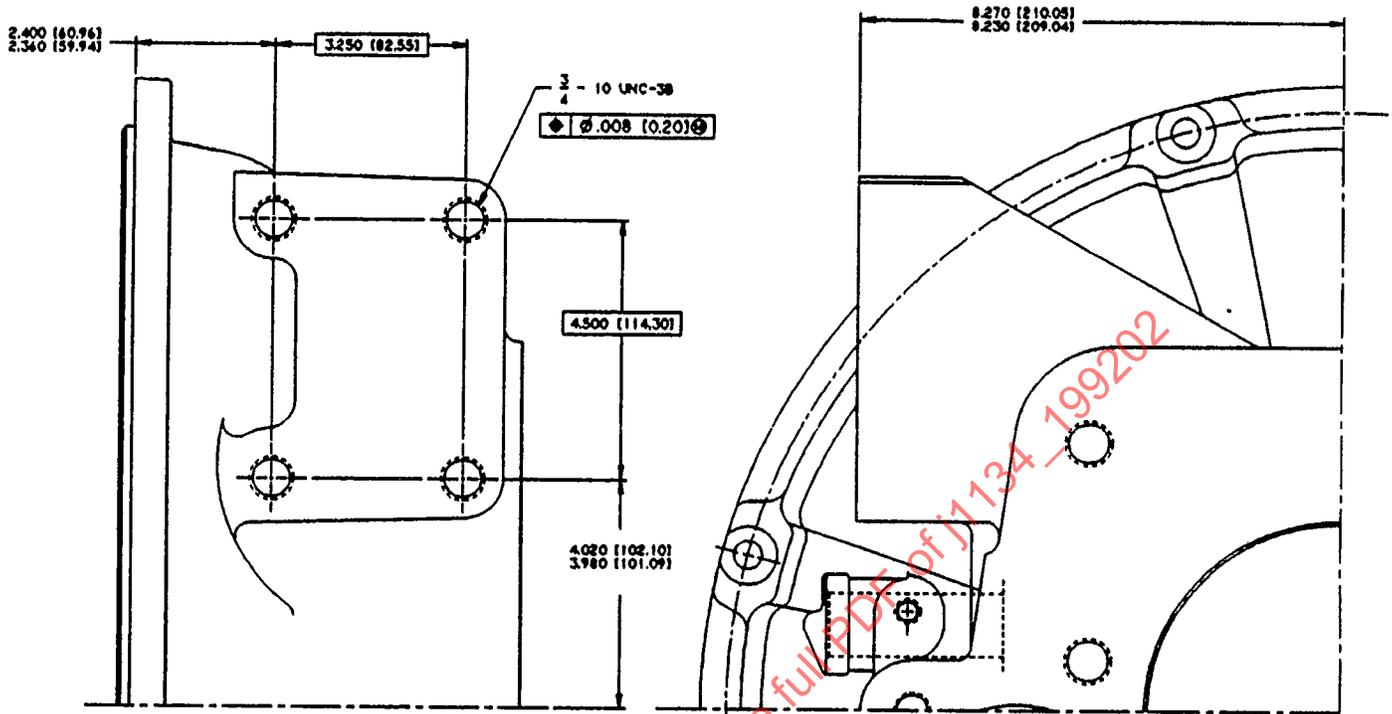
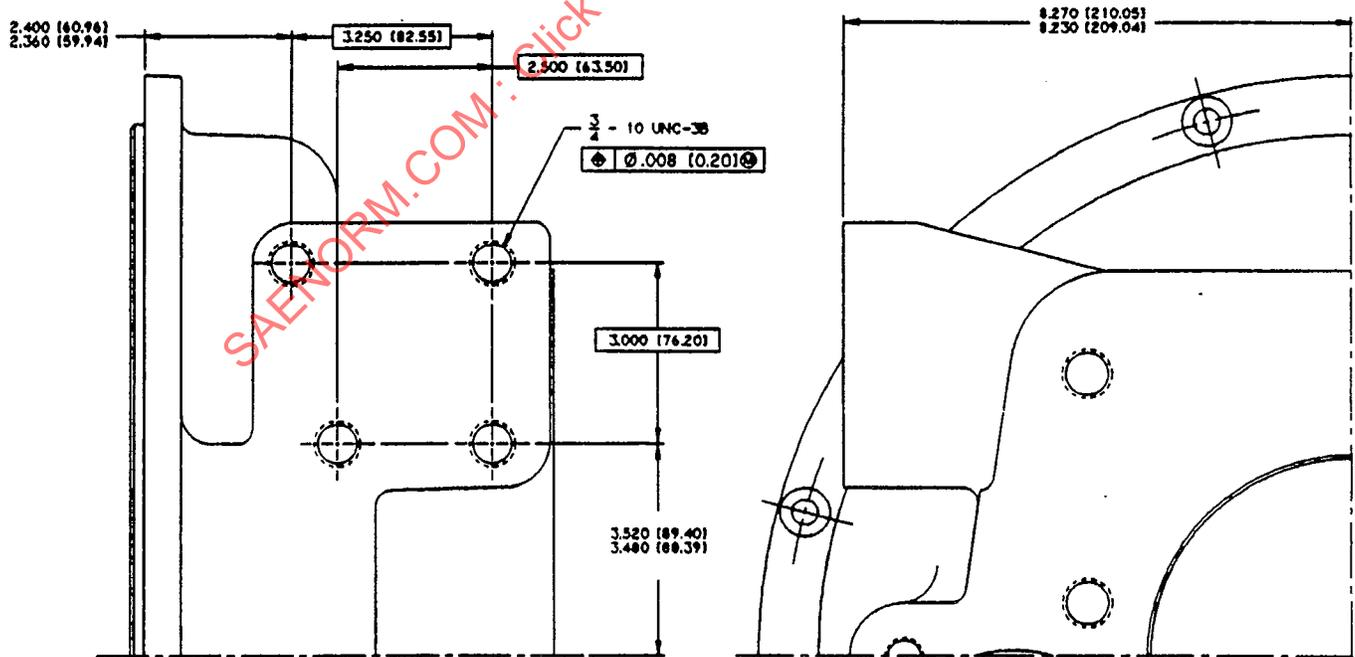

FIGURE 1—NODAL MOUNT—SAE NO. 1
FIGURE 2—NODAL MOUNT—SAE NO. 2
- 1. Scope**—This SAE Recommended Practice establishes a single bolt pattern for the No. 1 clutch housing (see Figure 1) and the No. 2 clutch housing (see Figure 2).